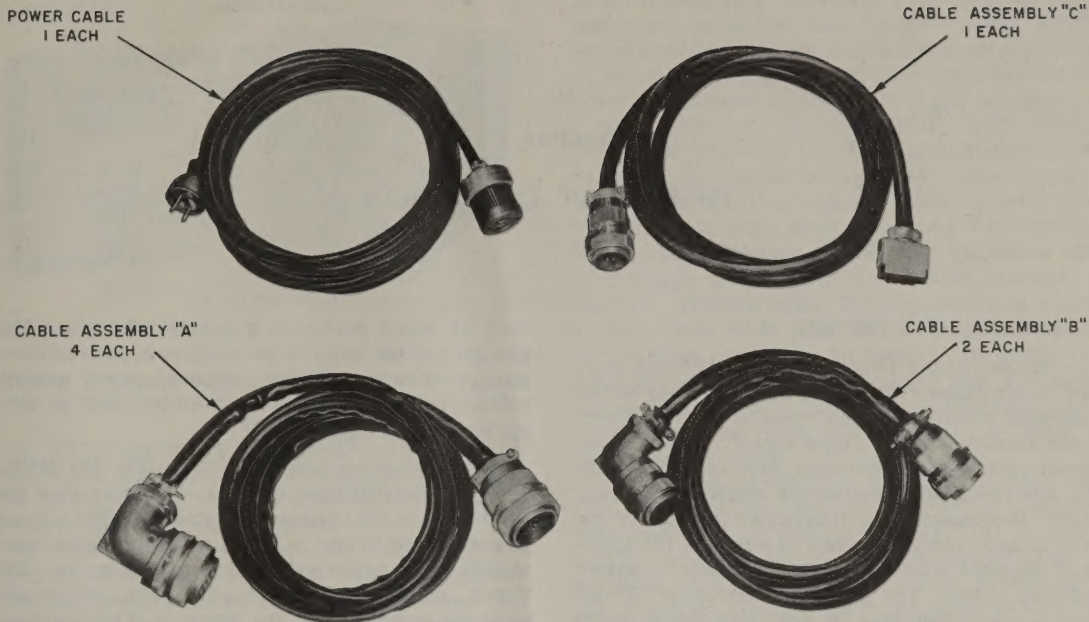

Figure 3. Cable assemblies.
b. Seven output cables (fig. 3) of three different types are supplied which provide for all the necessary connections between the test equipment and the radar set components.
a. Connect the power cable (fig. 3) supplying 115-volt, single-phase, 60-cycle ac to the 115 V.A.C. INPUT jack, J111.